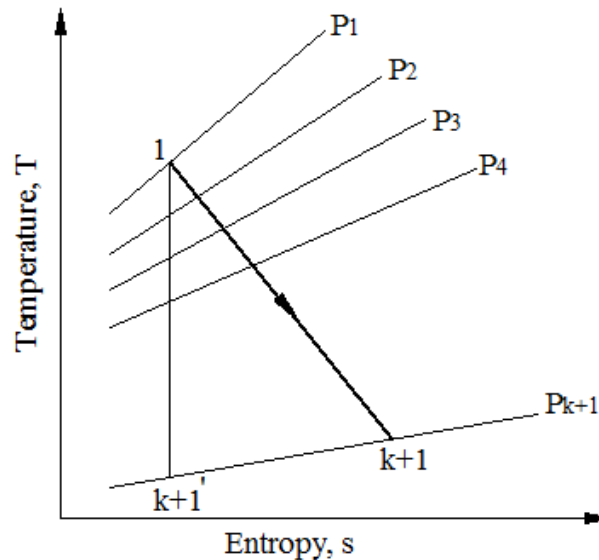

Fig. 2.10 Expansion process in multistage turbine
**Answer:** The figure 2.10 shows the T-s diagram expansion process in multistage turbine operating between the pressures  $p_1$  and  $p_{K+1}$ . If there are  $K$  stages with the overall pressure ratio  $\frac{p_1}{p_{K+1}}$  and having equal stage efficiency and stage pressure ratio.